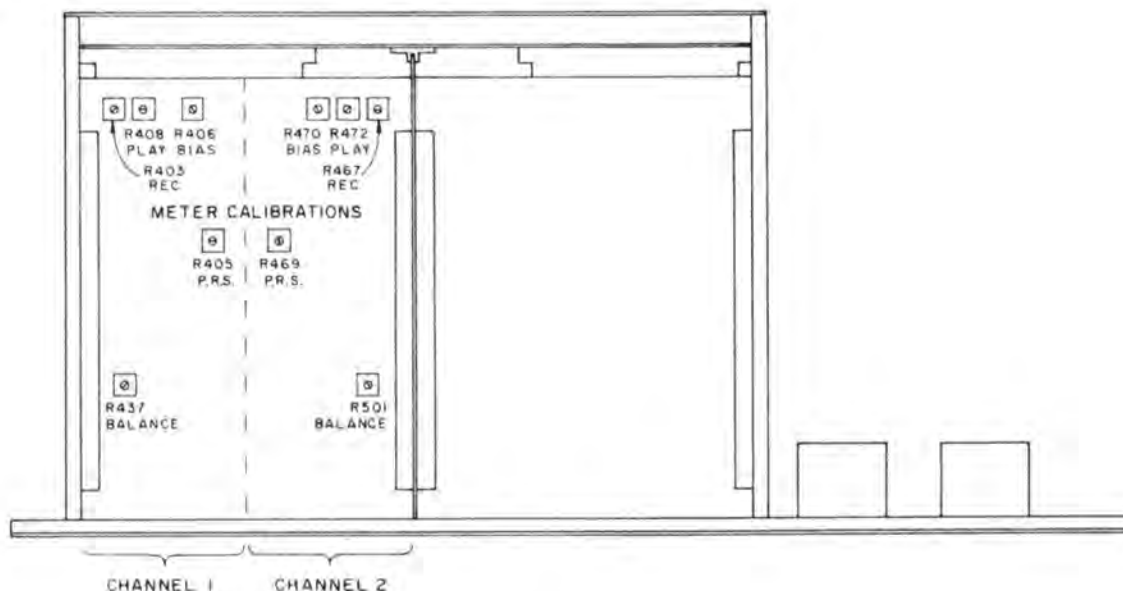

FIGURE 4-1
5. Follow the same procedures outlined in Step 4 to calibrate the Channel 2 VU meter. The calibration potentiometer is R472. See Figure 4-1 for location of these trimmers.
5. Adjust the record meter calibration control R403 for a "0" reading on the VU meter. See Figure 4-1.
3. Adjust R437, balance for a 0 dBm reading on the high impedance voltmeter connected across the output terminals, Figure 4-1.
4. On stereo units, use the same procedure as outlined above but use R501 for the Channel 2, recording amplifier level calibration control. Figure 4-1.
3. Adjust potentiometer R406 until a "0" VU indication is read on Channel 1 meter. See Figure 4-1.